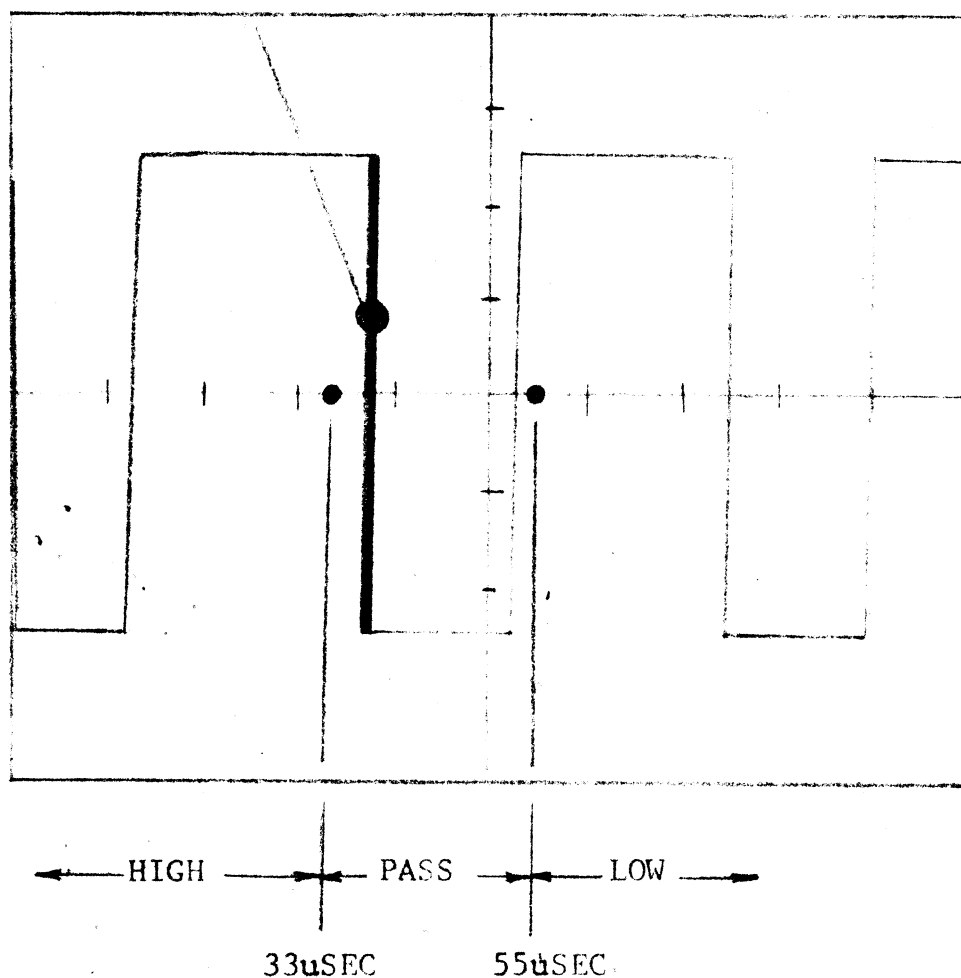

FIGURE 2 SCOPE SCREEN
4.1.2 When looking at the switching signal the LEVEL Control 19 may have to be adjusted to get the trace to appear as in Figure 2.